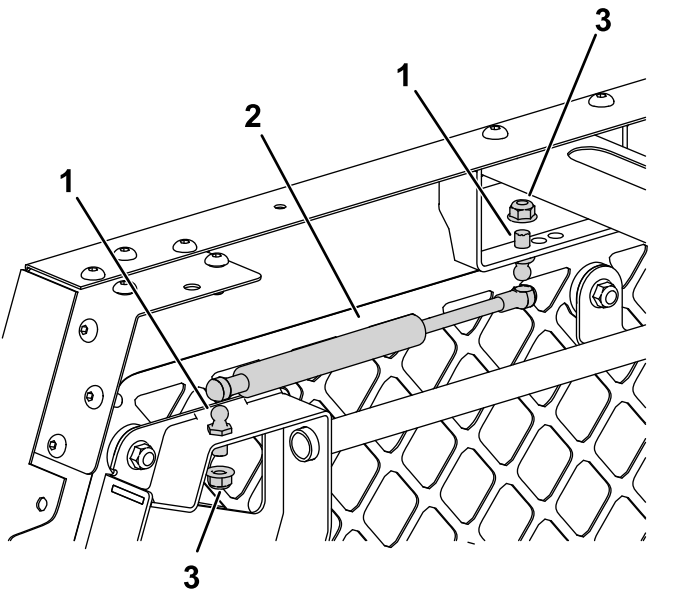

Figure 14
2. Use 2 ball studs and 2 flange nuts (5/16 inch) on each side to secure the springs to the door cage assemblies and the forward-most holes of the support mount (Figure 14).